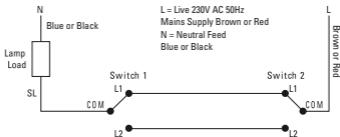

**Fig 8 – Replacement Delay Switches fitted to circuit shown in fig. 6**
- Further DSSNs can be added to replace any further intermediate switches in the system. If there are no intermediate switches (2 way switching) the before and after connections for both systems are shown in figs 8 to 11. Note that an in-line connector is required for the Strapping Cable System to provide continuity for the SL connection.